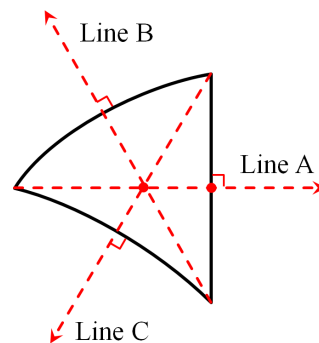

Figure 4
5. Use the ruler to draw straight line B, from the apex opposite the convex side of the outline, through the center mark and then through the convex side of the outline. Extend Line B several centimeters past the outline as in Figure 4. Line B represents a line normal to the convex mirror surface.
6. Repeat the procedure to draw straight Line C. See Figure 4. Line C represents a line normal to the concave mirror surface.